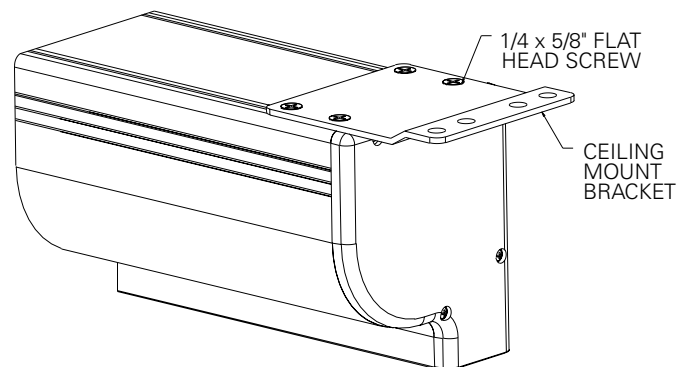

FIGURE 2
3. The top of the screen case has two channels with threaded nuts that slide the length of the case. Attach two ceiling mount brackets to the screen case as shown in figure 2. Mount cannot be more than 12" from end of case.